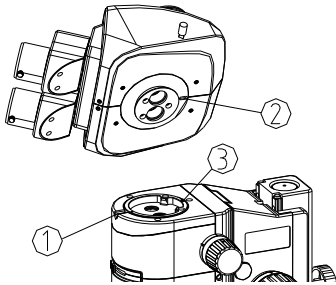

Fig. 6
- 1) Loosen the head lock-screw ① fully with a M4 inner hexagon spanner.
- 2) Make the two tubes face forward, from a little rear position of the center, insert the coattail interface on the bottom of head into the hole of body with a little rear inclined. Match the orientation groove ② of the head with the orientation pin ③ of the body, and then screw down the lock screw ①. (See Fig. 6)